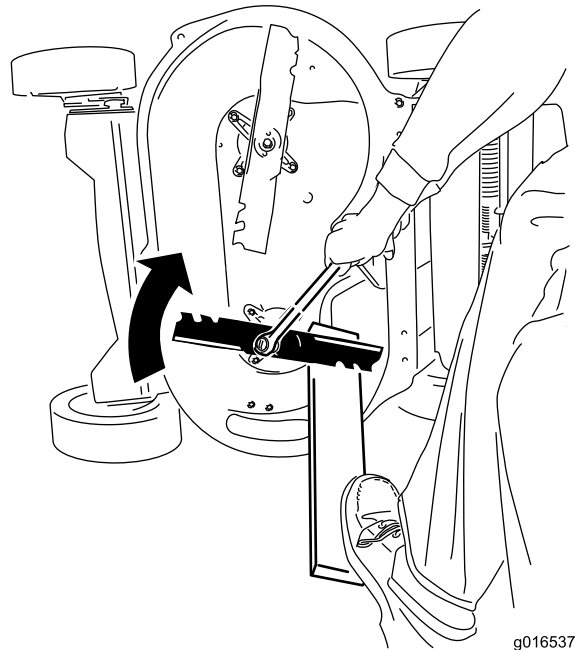

Figure 46
2. Steady each blade with a board and turn the blade bolt clockwise with a torque wrench as shown in Figure 46; torque the blade bolt to 82 N·m (60 ft-lb).